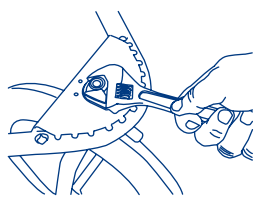

Fig. 23
- 23) • Remove footrest to access nut. You can use a standard crescent wrench to tighten the nut (Fig. 23). **DO NOT OVER TIGHTEN** this can cause damage to the wheel housing.